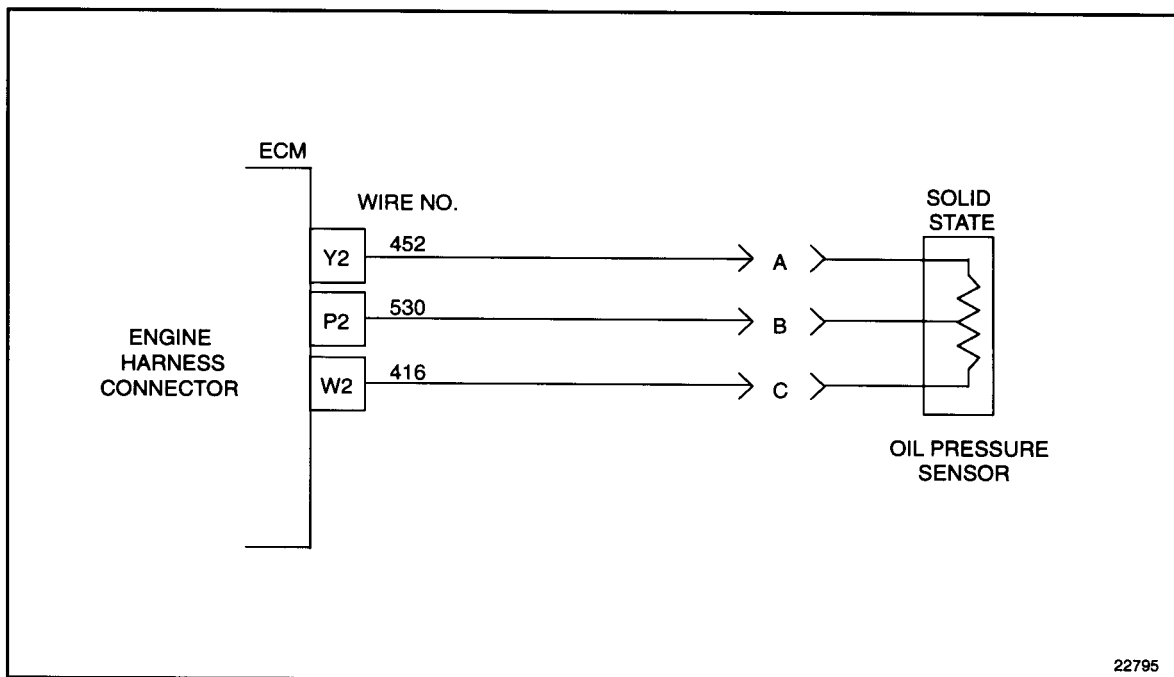

Figure 36-3 Engine Harness Connector to Oil Pressure Sensor
2. Disconnect the engine harness connector at the ECM. See Figure 36-3.